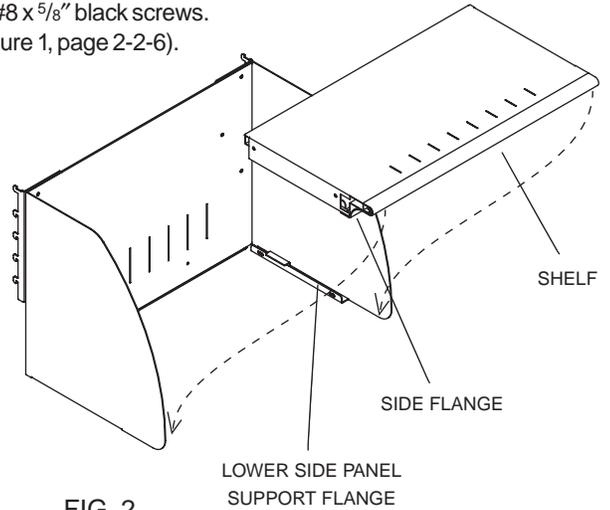

FIG. 2
2. Set the shelf into position by locating the side flanges of the shelf into the lower support flanges of the side panels (Figure 2).
3. Press the shelf down and adjust until the (4) screw holes in the shelf side flanges are visible through the slots in the side panel lower support flanges.